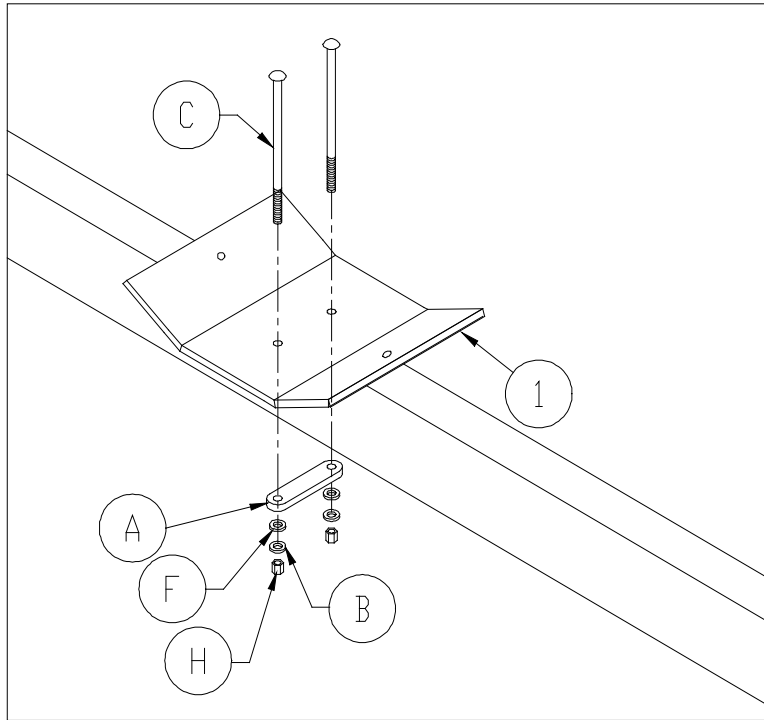

Figure 2-2.
2. **Refer to Figure 2-2.** Fasten the each cradle mounting plates to the load tubes using two 3/8-16 HHCS bolts (C), two flat washers (F) , two split-lock washers (B), and two silicon bronze hex nuts (H) supplied. Silicon bronze nuts have been provided to prevent hardware “gall, lock up, or seize” during assembly.